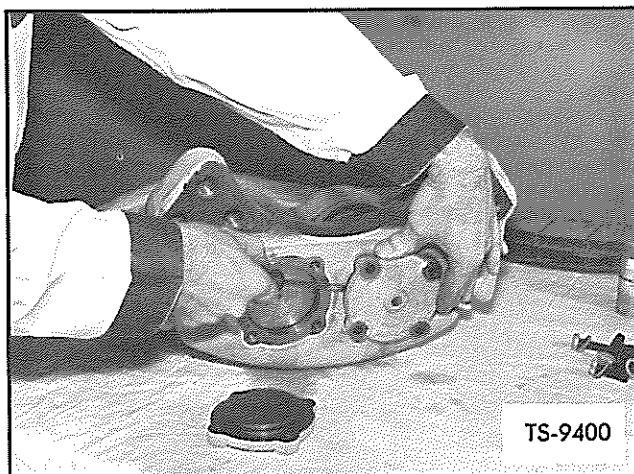

Fig. 17. Remove Piston Retaining Caps
8. Remove piston retaining caps as shown in Figure 17. A small screwdriver may be used to loosen piston retaining cap if necessary.